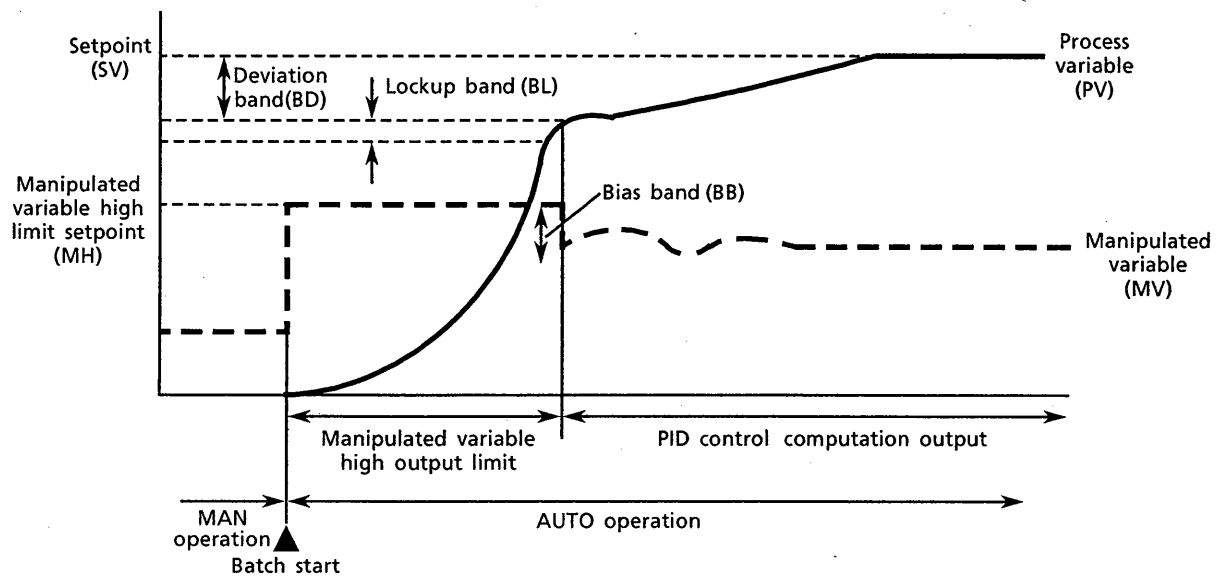

Figure 3.7.1 Batch PID Control Operation
In PID batch operation with reverse control action (see Figure 3.7.1), the manipulated output high limit value (MH) is output if the deviation is outside the deviation band (BD). When the deviation is brought within the deviation band, a bias BB is subtracted from the output ( $MV = MH - BB$ ) to prevent overshoot, and the controller switching to PID control.